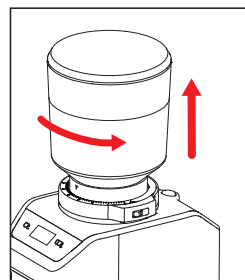

Fig. 9
2. Ensure the coffee grinder is switched off and unplugged from the power outlet. Turn the hopper anti-clockwise to remove (figure 9).